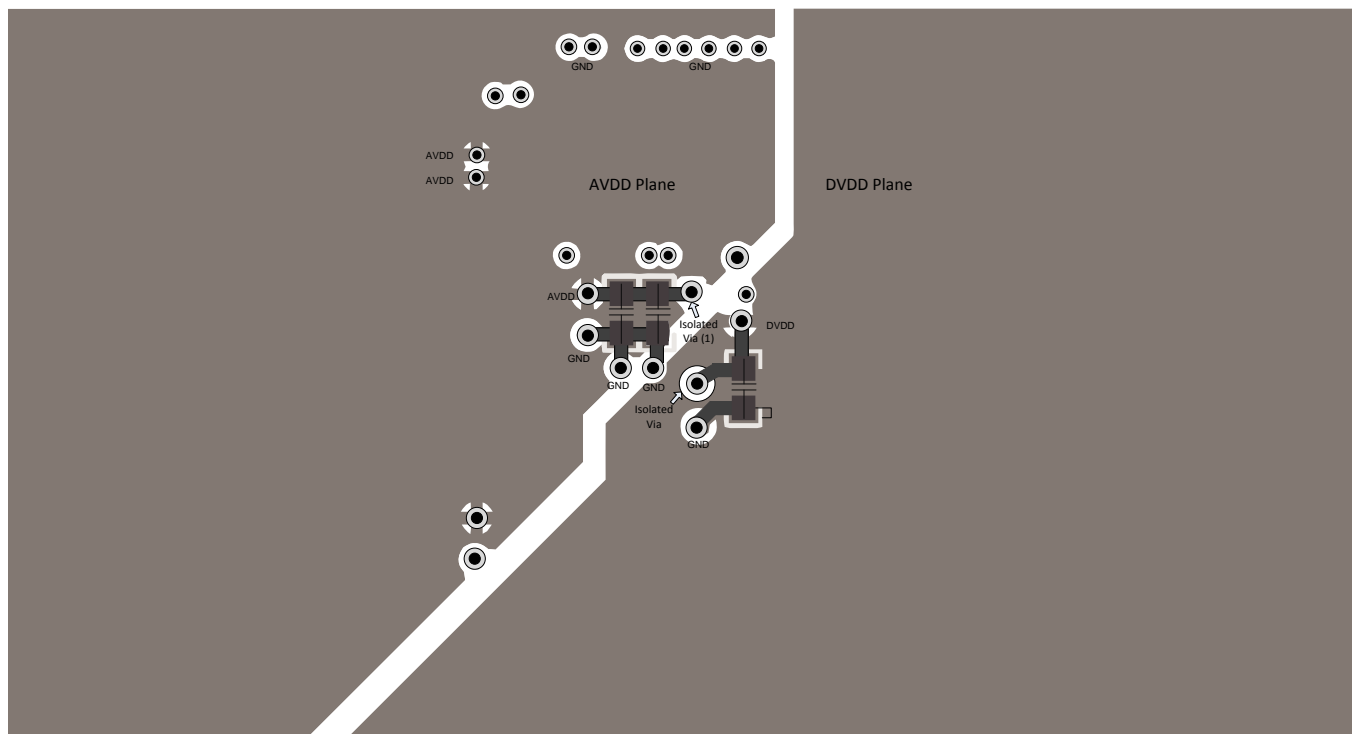

图 90. Bottom Layer Layout
- Power sources to the ADS8588H must be clean and well-bypassed. As a result of dynamic currents during conversion, each AVDD must have a decoupling capacitor to keep the supply voltage stable. Use wide traces or a dedicated analog supply plane to minimize trace inductance and reduce glitches. Using a 1- μ F, X7R-grade, 0603-size ceramic capacitor is recommended in close proximity to each analog (AVDD) supply pins. Bypass capacitors for AVDD pins 1 and 48 are located on the top layer; see 图 89. AVDD supply pins 37 and 38 are connected to bypass capacitors in the bottom layer using an isolated via (1); see 图 90. A separate via (2) is used to connect the bypass capacitor to the AVDD plane.
- For decoupling the digital (DVDD) supply pin, a 1- μ F, X7R-grade, 0603-size ceramic capacitor is recommended. The DVDD bypass capacitor is located in the bottom layer; see 图 90.